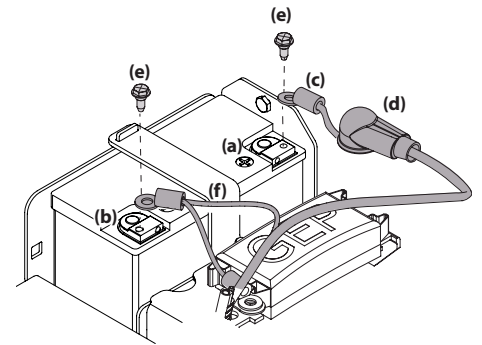

Figure 2-21
Note: The positive battery terminal is marked POS. (+) (a). The negative battery terminal is marked NEG. (-) (b). See Figure 2-21.
2. Slide the red boot (d) from the positive battery terminal (a) and attach the red cable (c), with the vertical mount bolt (e). See Figure 2-21.
4. Attach the black cable (f), to the negative battery terminal (b) with the vertical mount bolt (e). See Figure 2-21.